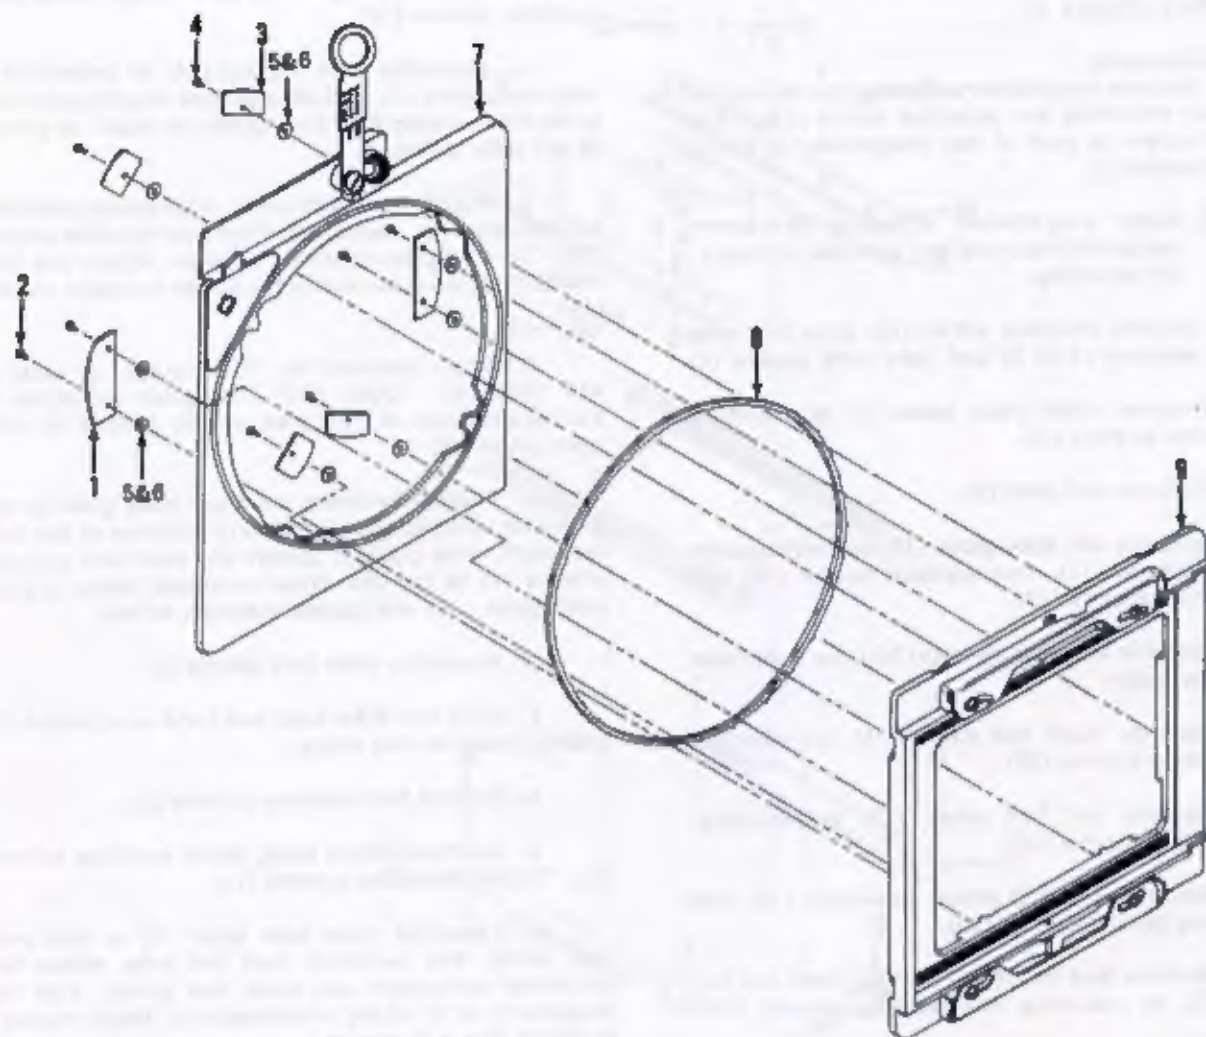
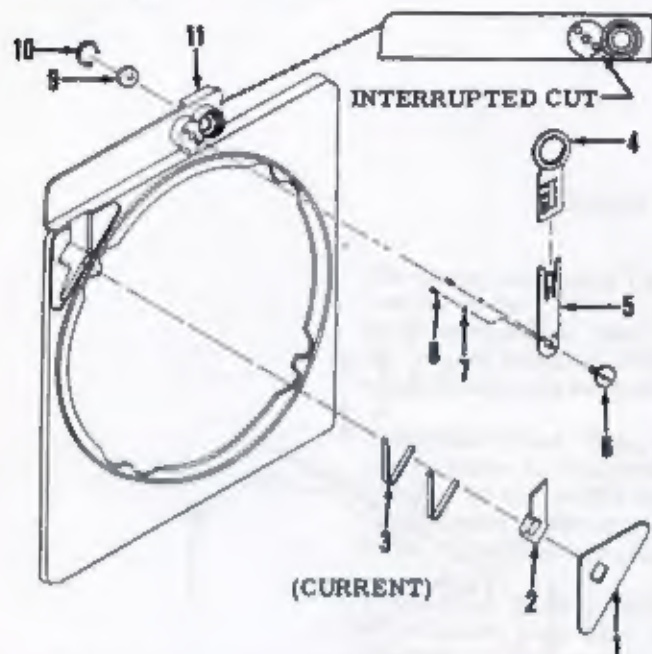
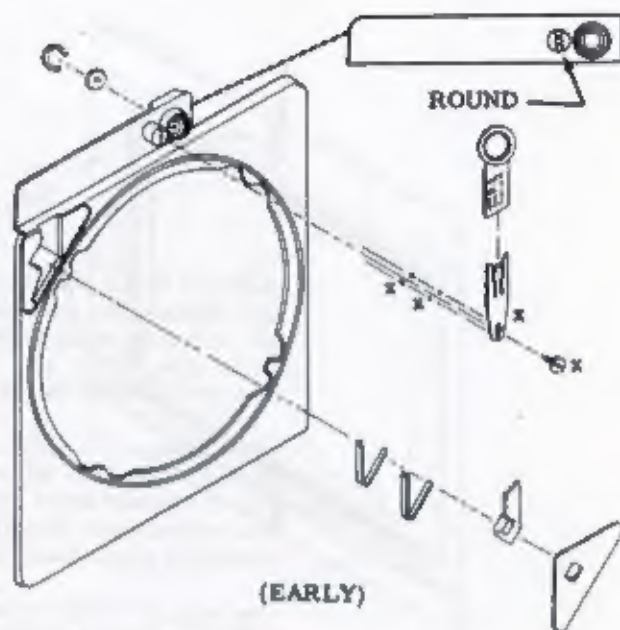

Figure 12. BACK ASSEMBLY
Figure 12A. STATIONARY FRAME COMPLETE
Figure 12B. STATIONARY FRAME COMPLETE
**X. BACK ASSEMBLY - DISASSEMBLY AND REASSEMBLY (Figure 12)****1. Disassembly**
a. Remove four machine screws (2), four machine screws (4), two retainers (1), four retainers (3), washers (5 & 6, used as required), and stationary frame complete (7). If disassembly of the stationary frame complete is necessary, see Par. X.1.
b. Remove revolving ring (8) from grooved track of the revolving frame complete (9). If disassembly of the revolving frame complete is necessary, see Par. X.2.
**NOTE:** A change has been made on the stationary frame as illustrated in figures 12, 12A & 12B. Disassembly and reassembly procedures remain the same. Items marked x in figure 12B are not interchangeable with corresponding items in figure 12A. When ordering replacement parts, refer to the correct parts list.
#### X.1. STATIONARY FRAME COMPLETE - DISASSEMBLY AND REASSEMBLY (Figure 12A)